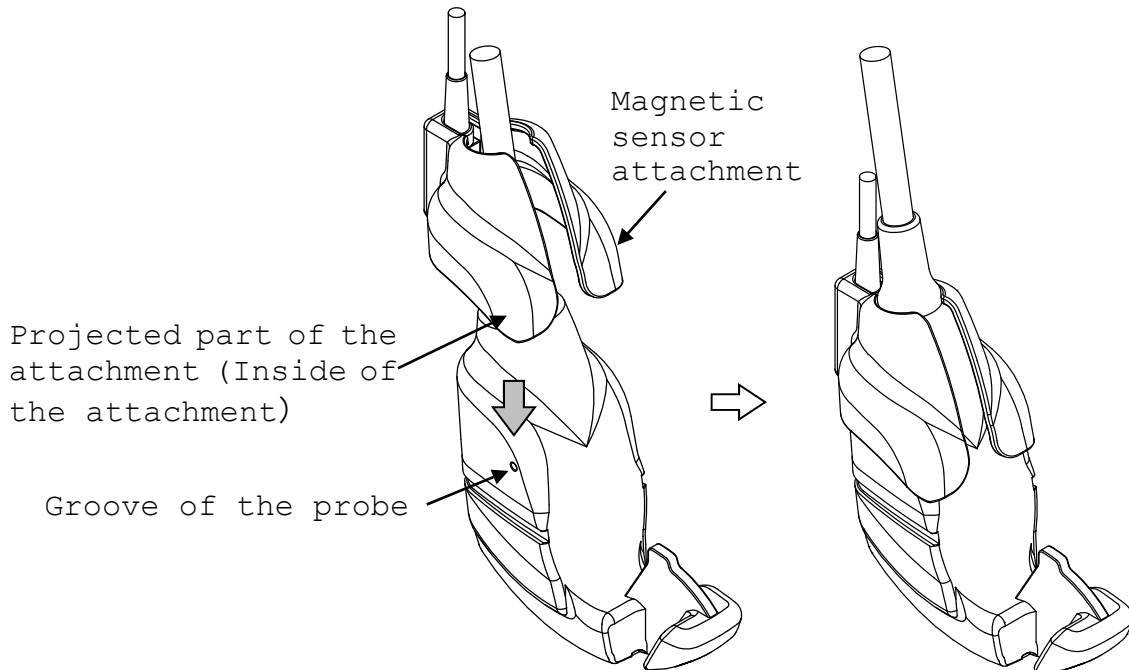

Fig.24 Attaching the Magnetic sensor attachment
- 2) Place the Magnetic sensor attachment on the probe as shown in Fig.24. Insert the projected part of the attachment into the groove of the probe.